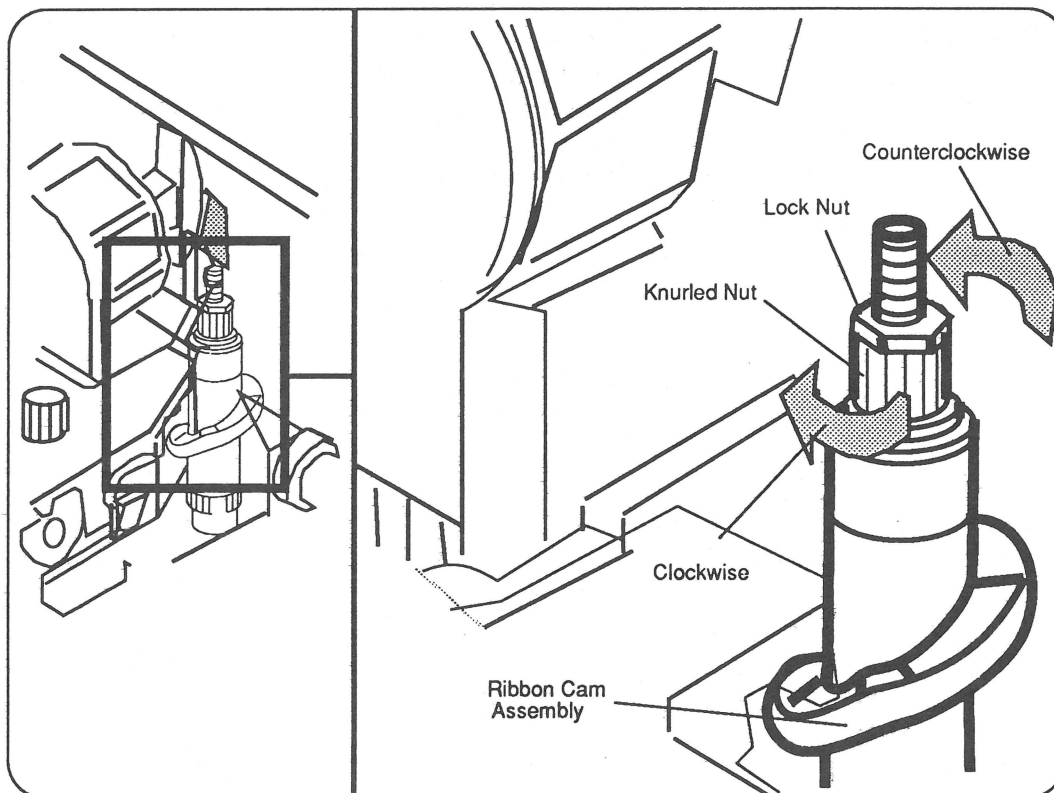

Figure 4-1 Ribbon Cam
3. Locate the ribbon cam assembly (**Figure 4-1**).